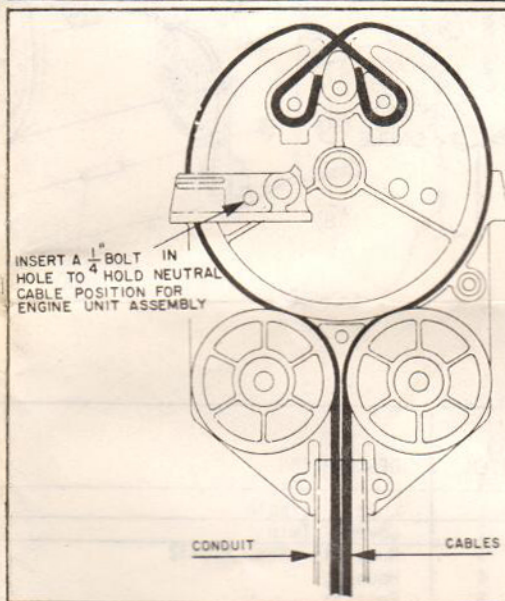

FIGURE 2
- Thread cable ends through conduit around pulleys (13) to top of drive sheave (6). See figure 2.
- Overlap cables and loop end around pear shaped boss on drive sheave (6) and clamp in place using cable retaining washer (7), lockwashers (8), and screws (9).
- Clamp cable overlap using retaining clip (10), lockwasher (8), and screw (9).
- To maintain cable position when control is in neutral, insert a 1/4" bolt or nail through hole in housing (4) and drive sheave (6). (See Figure 2.)
- After adjustments are performed, make sure mounting brackets (27) are in place on twin head.
- Secure control cover (2) using screws (25).